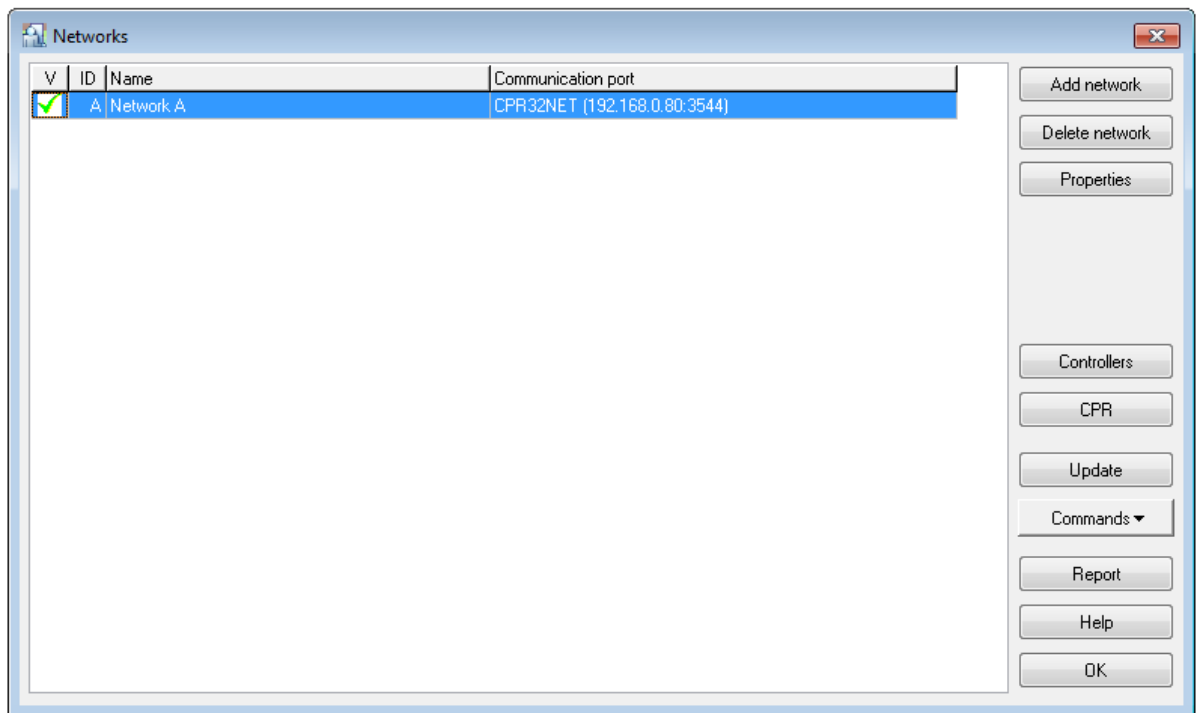

Fig. 4 Networks window
7. Click the button **CPR** in the window shown in fig. 4.
11. In window shown in fig. 4 press the button **Controllers**.